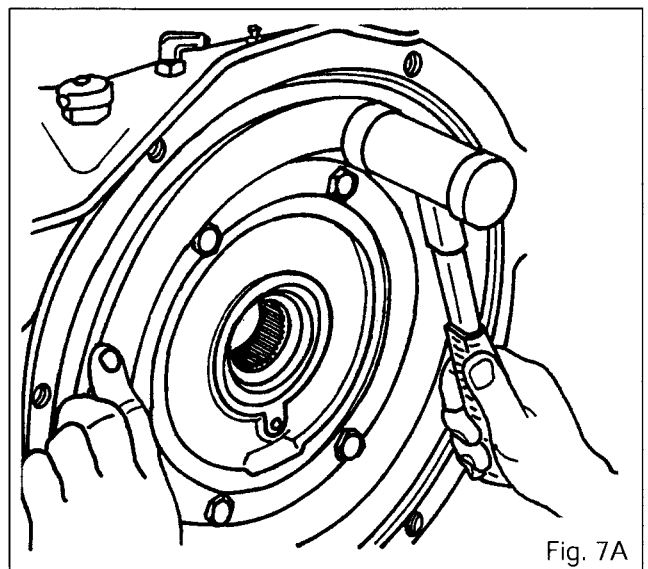
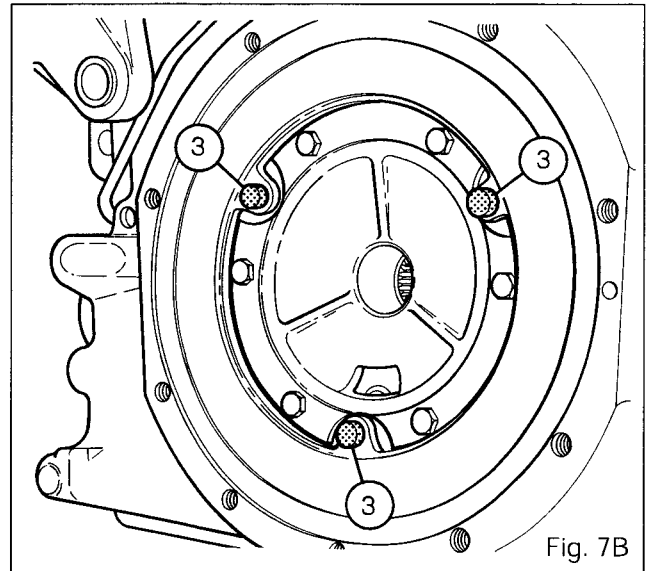

Fig. 7A
Fig. 7B
10. Position the piston over the dowels, then fit it in to place with the aid of a plastic mallet, striking alternate points around the circumference (Fig. 7A). Fit the bolts (3) (Fig. 7B) after lightly smearing them with Loctite 241 and tighten them to a torque of 10 Nm with the locally manufactured socket.